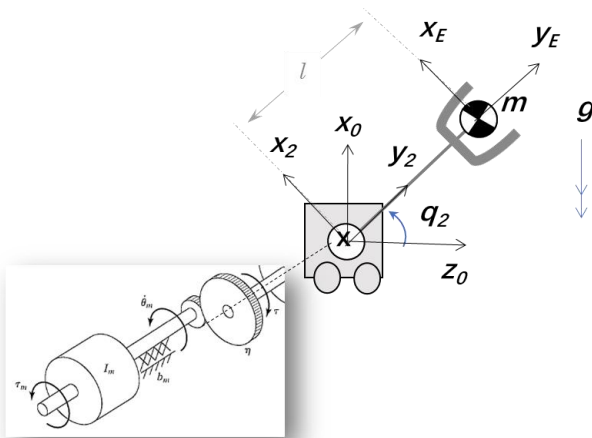

Figure 2.
- a) Consider a single-link manipulator as the cart is fixed stationarily shown Figure 2.